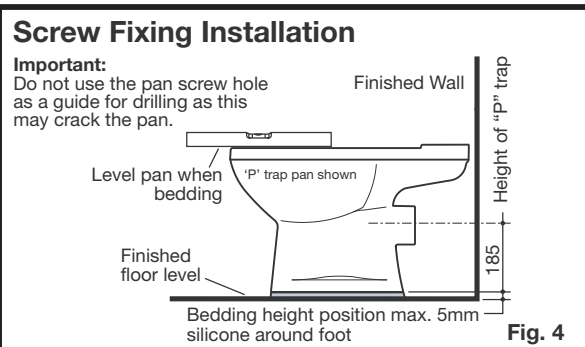

Fig. 4
Important: Use only Caroma performance approved offset pan connector. Code No: 687270. The 40mm optional off set connector is available to help achieve the set out of 140mm on existing installations, where the soil pipe is between 100mm min. and 180mm max. set out ranges specified for connector, as detailed in **Fig 4. (sold separately).**
- 1- Position pan onto pan connector and locate the cistern onto the pan, checking that the cistern aligns with the finished wall. Adjust pan position if necessary and mark location of pan fixing holes on the floor. Remove the cistern and pan, as detailed in **Fig. 4.**